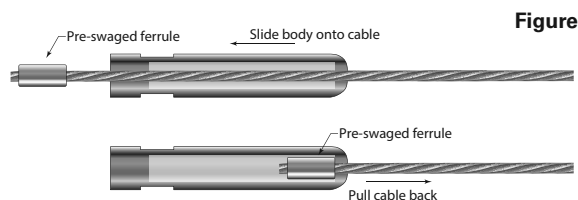

Figure 1
5. Slide the body of the Adjustable Body with Hanger Bolt Tensioner onto the bare end of the cable, threaded end first, and pull it the length of the cable until it is stopped by the ferrule already swaged onto the cable. (Figure 1)